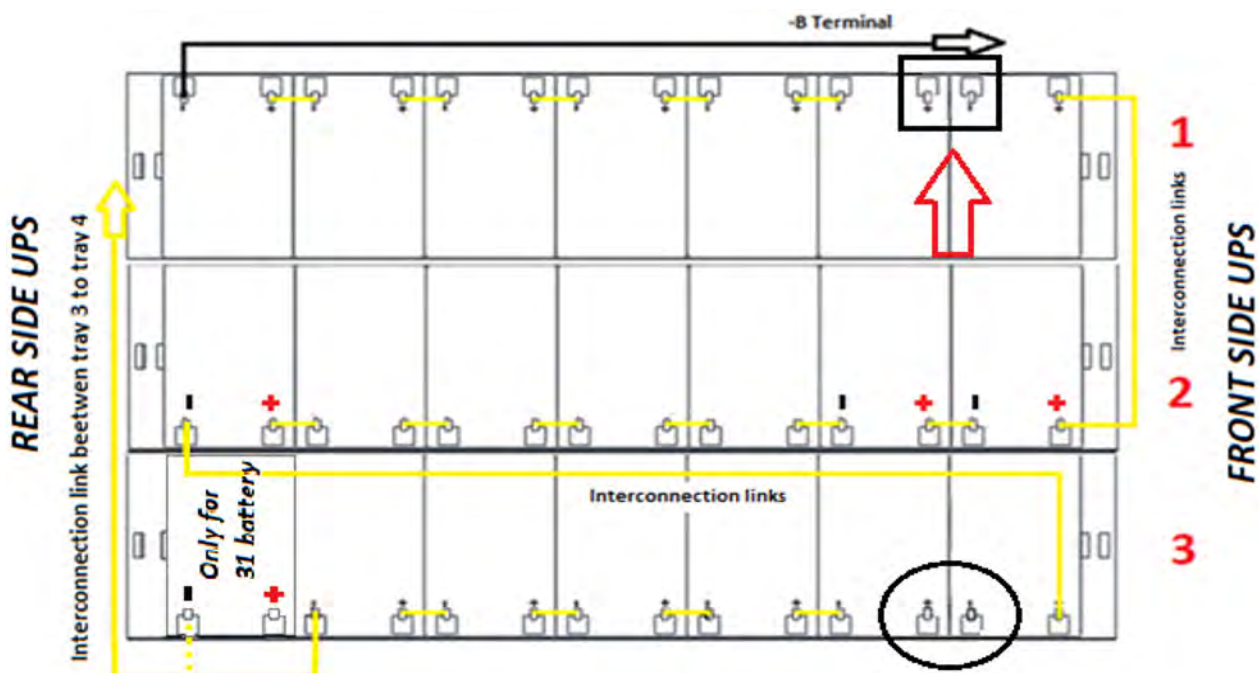

Figure 44 - View from above Level No.1 with battery connections
19) From the right hand side of the UPS, partially extract tray no. 1 and insert the missing jumper as indicated in the figure 44